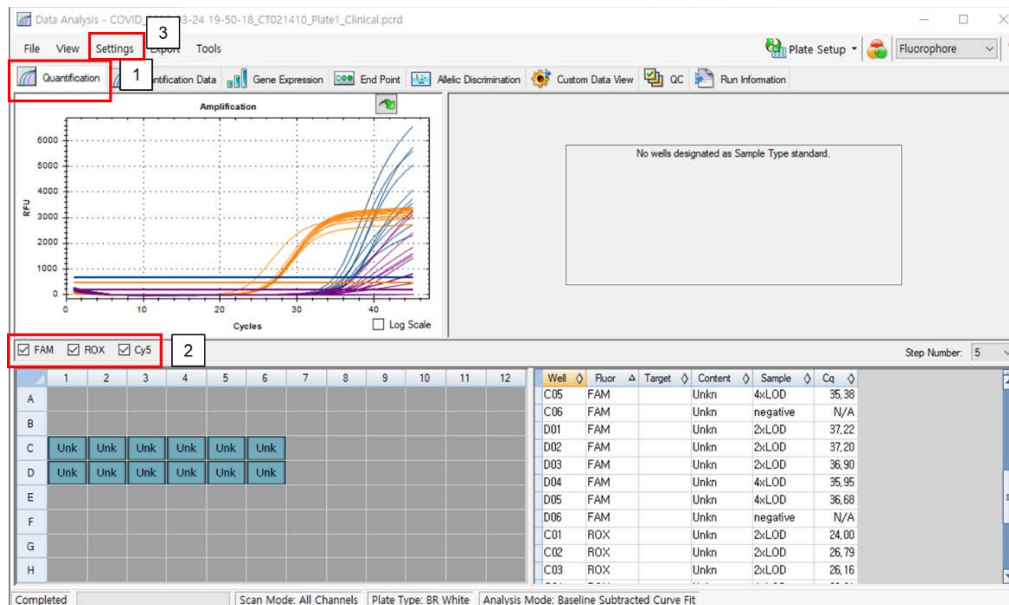

Figure 3. CFX Manager™ Software v3.1
- ① In the “Quantification”(#1) Window (Figure 3), select only one fluorophore (#2) located below the “Amplification”. Select “Protocol...” from the “Open” drop-down menu.